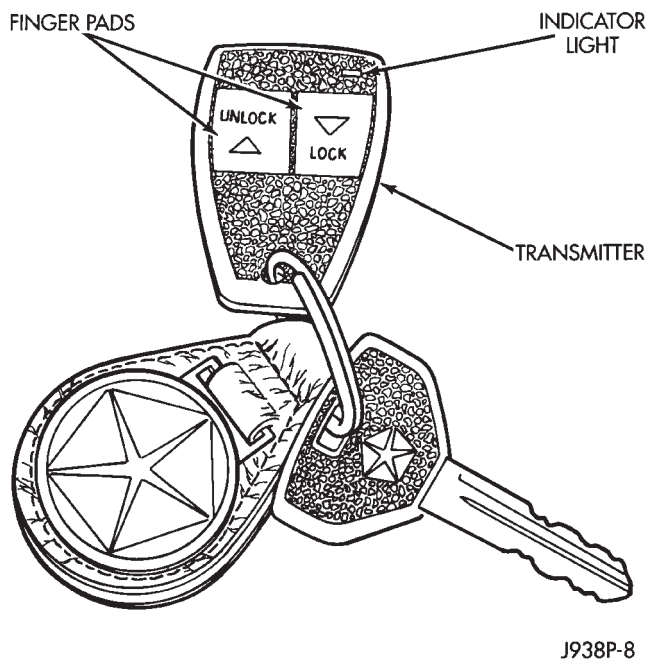

Fig. 1 Keyless Entry Transmitter
The pocket size, solid state transmitter operates on (2) 3-volt lithium (CR1616) batteries (Fig. 1). The transmitter is activated by pressing either the LOCK or UNLOCK button. This closes the internal contacts that complete the battery circuit.